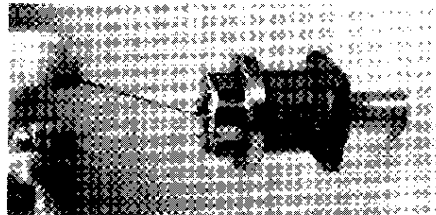

Fig. 5
3. Lubricate planet pin (39) and insert into planet pin hole in planet carrier (28) from splined side of carrier. Drive planet pin (39) through thrust washers and planet gear, into opposite planet pin hole in carrier housing. (Fig. 5 & 9)